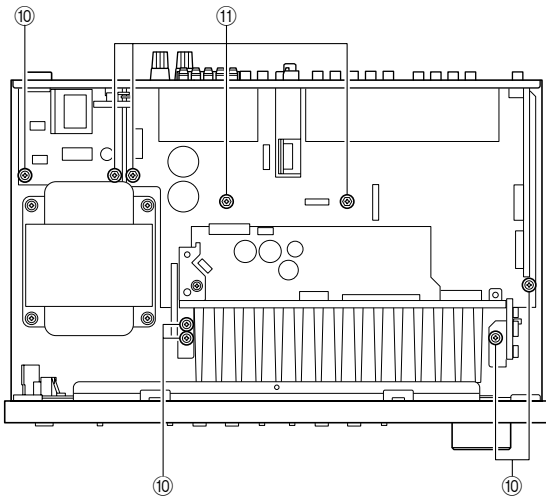

Fig. 4
- c. Remove 5 screws (⑩) and 4 screws (⑪). (Fig. 4)
- c. ⑩のネジ5本、⑪のネジ4本を外します。(Fig. 4)